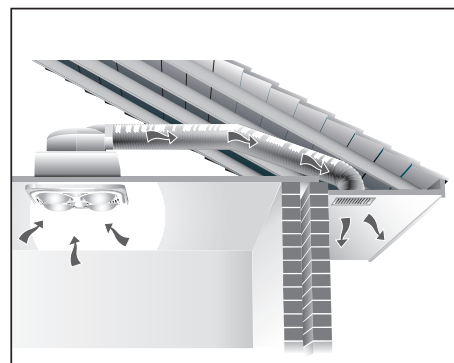
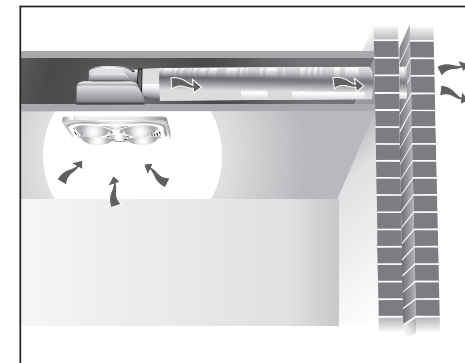

Fig.1
Fig.2
**Note:** Steam will only be removed if there is sufficient flow of air through the room. Ensure adequate inlets exist through windows, vents or under the door. The airflow path from inlets to fan should ideally pass over the steam sources. See over – 'Getting the most from your Instant Heat 4 Ducted'. Regulations concerning the discharge of air have to be fulfilled. Care should be taken that airflow throughout meets specific requirements in building regulations. Local building codes may require venting to the outside. Ducting must be fitted and vented to the outside using the exterior grille provided as shown in Fig.1 and Fig.2.